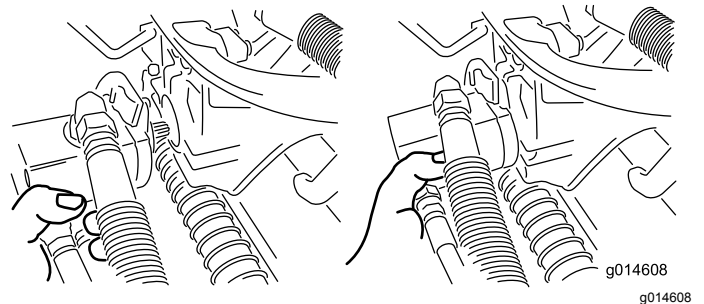

Figure 36
3. Move the motor to the storage location on the front of the suspension arm (Figure 36).